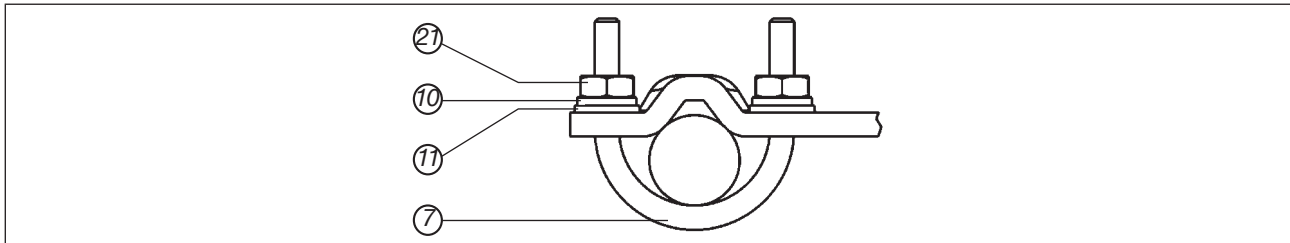

Figure 26: Attach positioner with mounting bracket; for actuators with columnar yoke
→ Attach mounting bracket to the columnar yoke with the U-bolt (7), washers (11), circlips (10) and hexagon nuts (21) (see “Figure 26”).